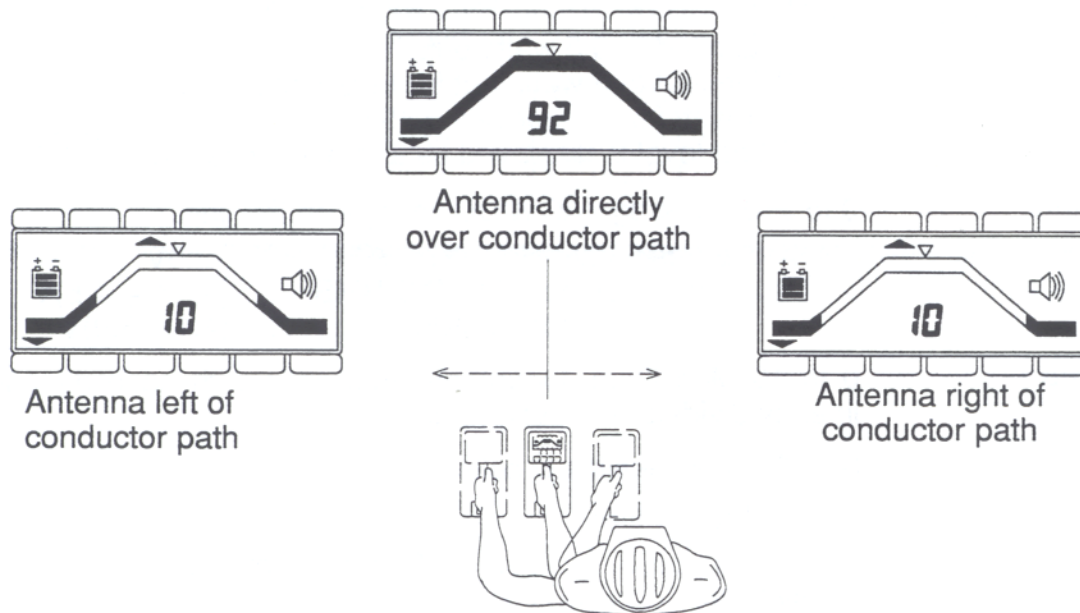

Fig. 1-9 Bar Graphs in Trace Modes
a. **Trace Modes** (∩ peak, ∪ null, or ⇌ differential): When the antenna is directly over the buried conductor, all or nearly all (depending on the signal strength) of the segments of the bar graph are visible. When the antenna is either right or left of the conductor path, the bar graph begins to separate at the middle. As the antenna is moved farther from the cable, fewer and fewer of the middle segments are visible (refer to Fig. 1-9).